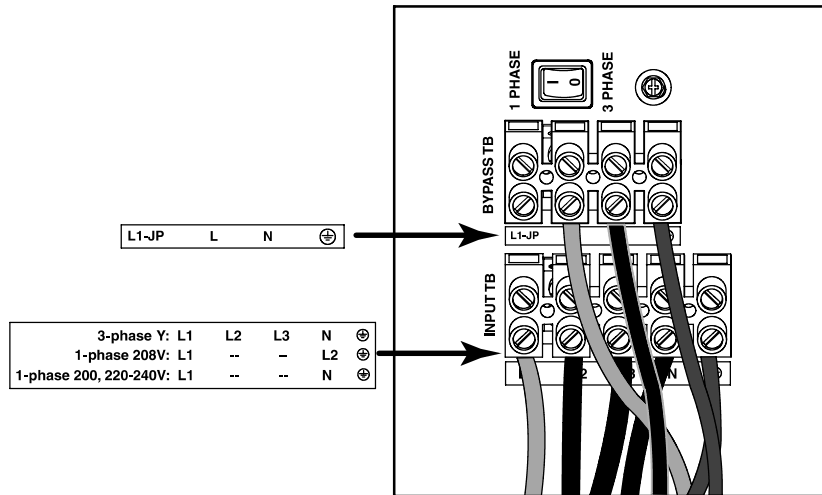

Figure 31. Dual Input Feed (Three-Phase)
For three-phase, dual input feed (see Figure 31), remove the short jumper wire connecting the L1-JP and L pins so that you can connect the second feed to the input bypass terminal block later in this procedure. Only a Y-type (star, 5-wire) input is supported. A delta (4-wire) input is NOT supported. Connect 380–415V L to L, 220–240V L to N. 208/120V three-phase input is NOT supported.
12. Set the phase input selector switch for single-phase or three-phase input. See Figure 31 on page 57 for the location of the switch.